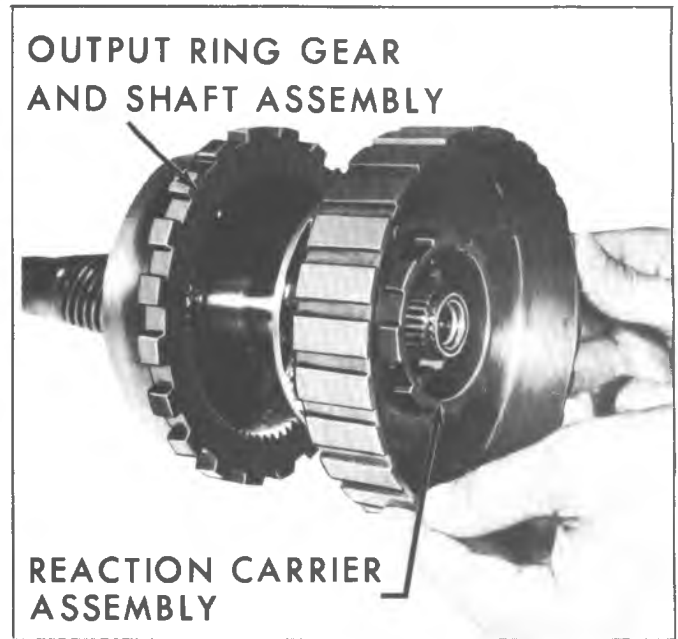

Fig. 7A-44B—Removing Reaction Carrier Assembly
17. Remove reaction carrier assembly from output ring gear and shaft assembly (fig. 7A-44B).